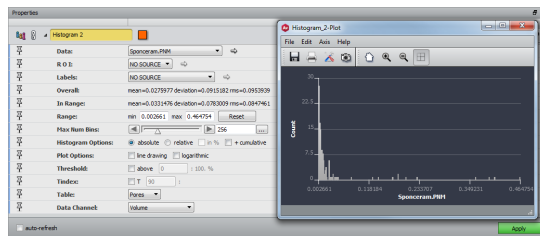

Figure 22.17: Pore Volume Histogram
5. The generated PNM can be used to plot the statistics of the pore space (see Figures 22.17 and 22.18).